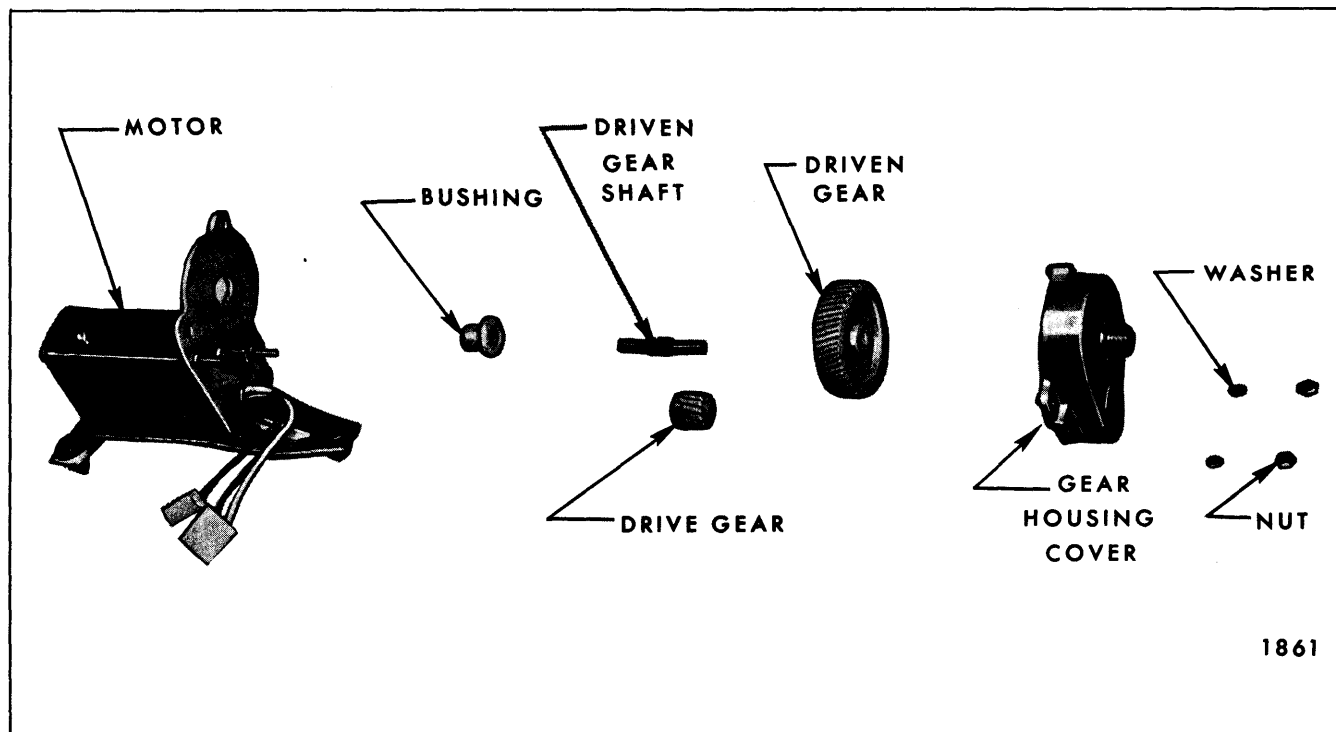

Fig. 13-75—Folding Top Lift Disassembled
4. Disassemble folding top lift assembly as shown in Figure 13-75.